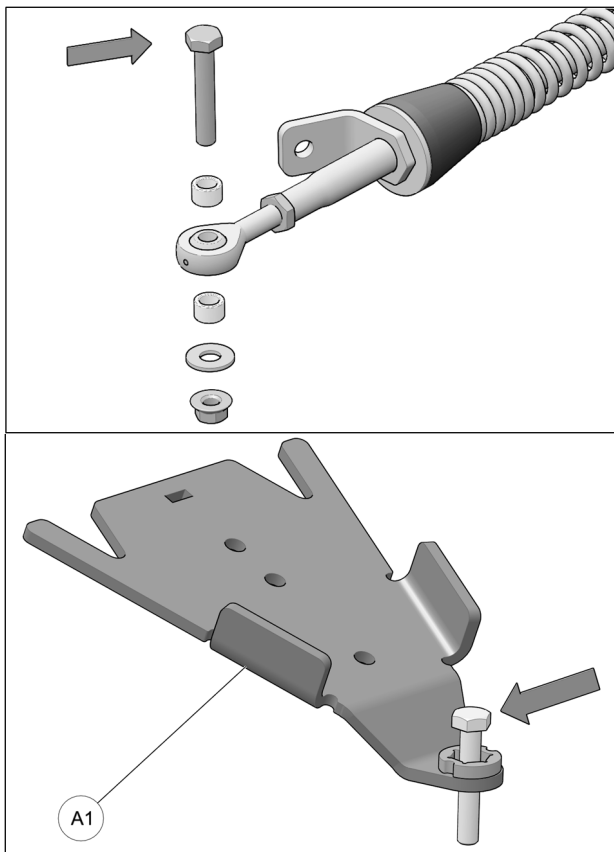

Fig. 15
4. Remove bolt, washer and bushings from front stabilizing rod end and insert bolt in front anchor bracket (A1) as shown in Fig. 15